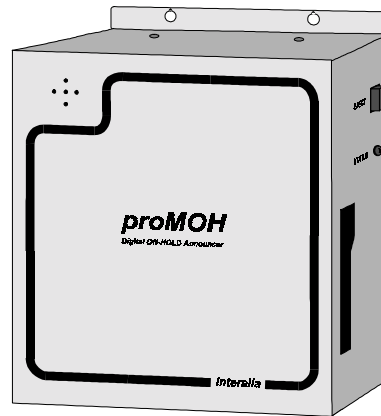

Figure 2
- 1) Using the wall-mounting template in Figure 1 (located at the end of this booklet), position the proMOH near the telephone system and secure it vertically to the wall (See Figure 2).